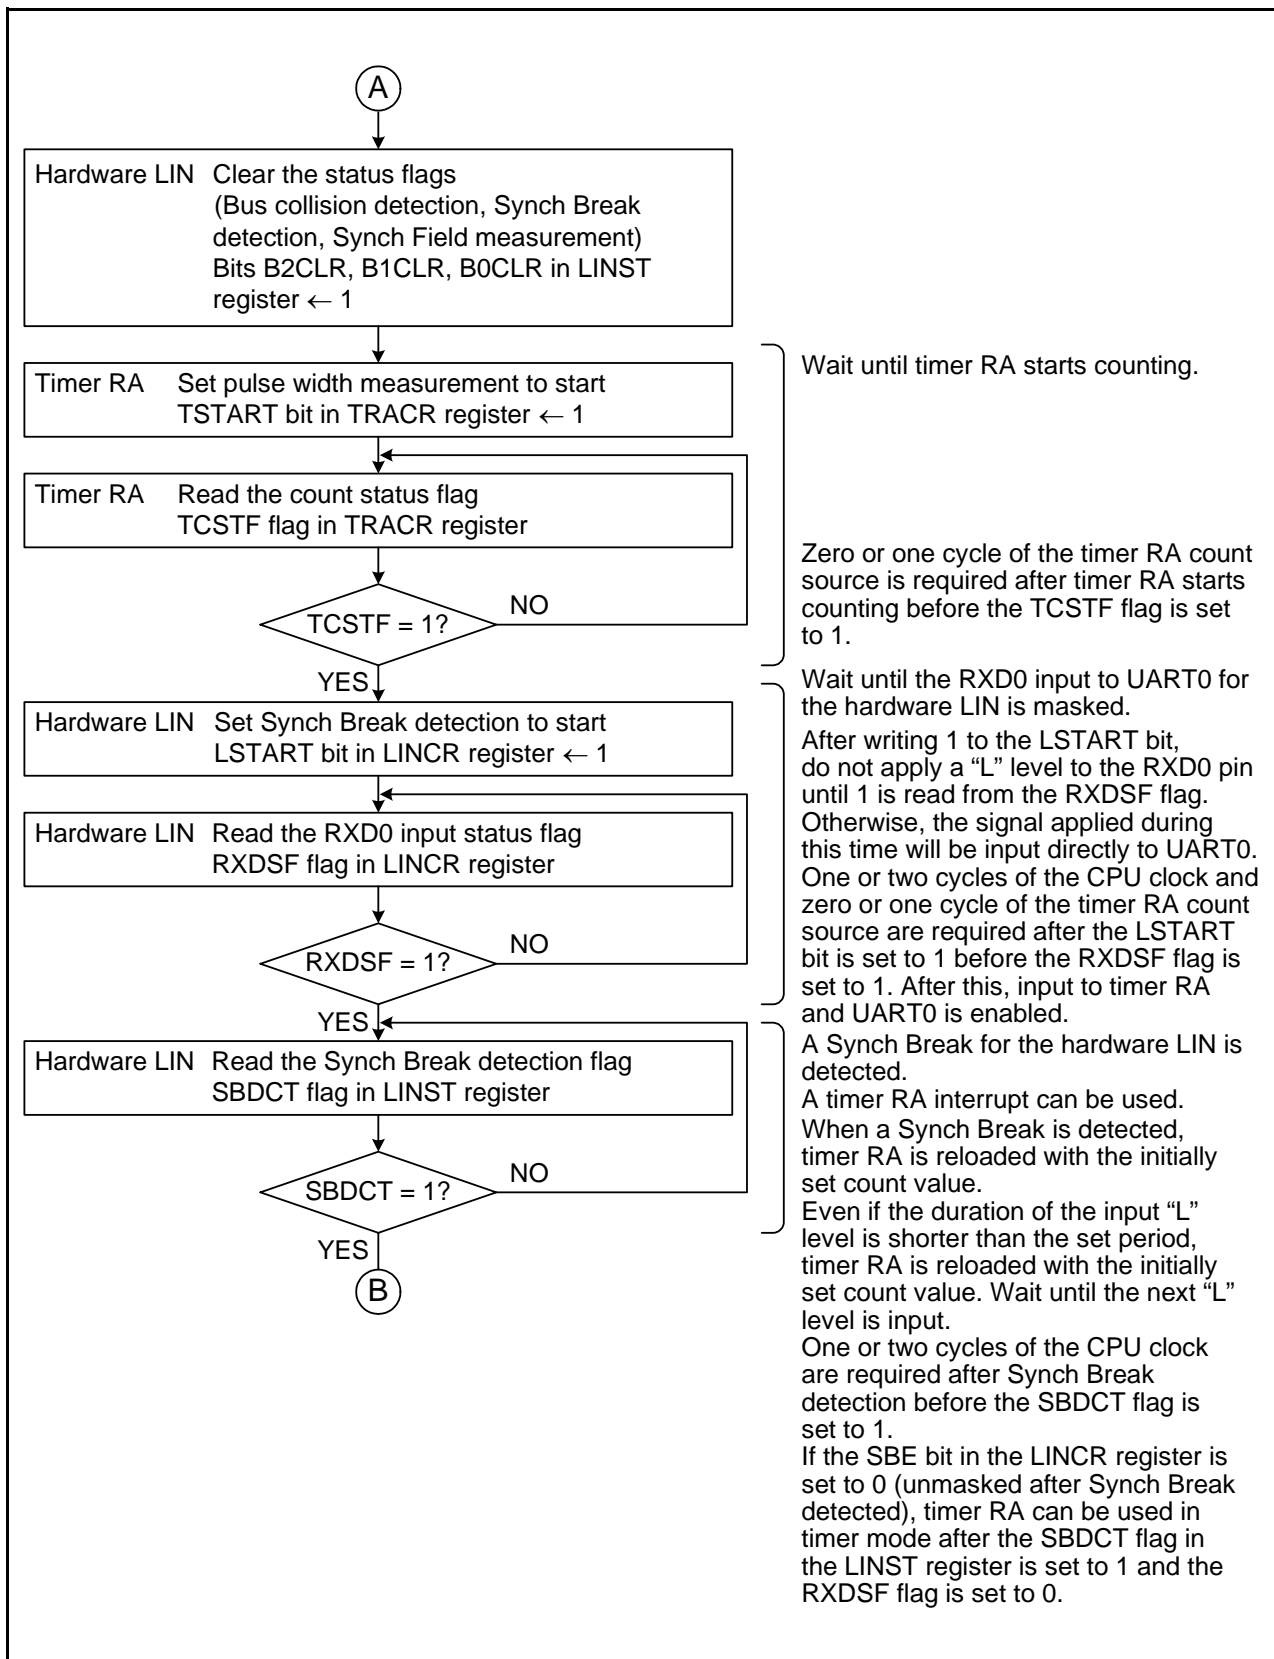

Figure 27.7 Header Field Reception Flowchart Example (2)
3. Inputs to timer RA and UART0 are disabled immediately after the LINE bit is set to 1 (LIN operation starts). (Refer to **Figure 27.3 Header Field Transmission Flowchart Example (1)** and **Figure 27.7 Header Field Reception Flowchart Example (2)**.)